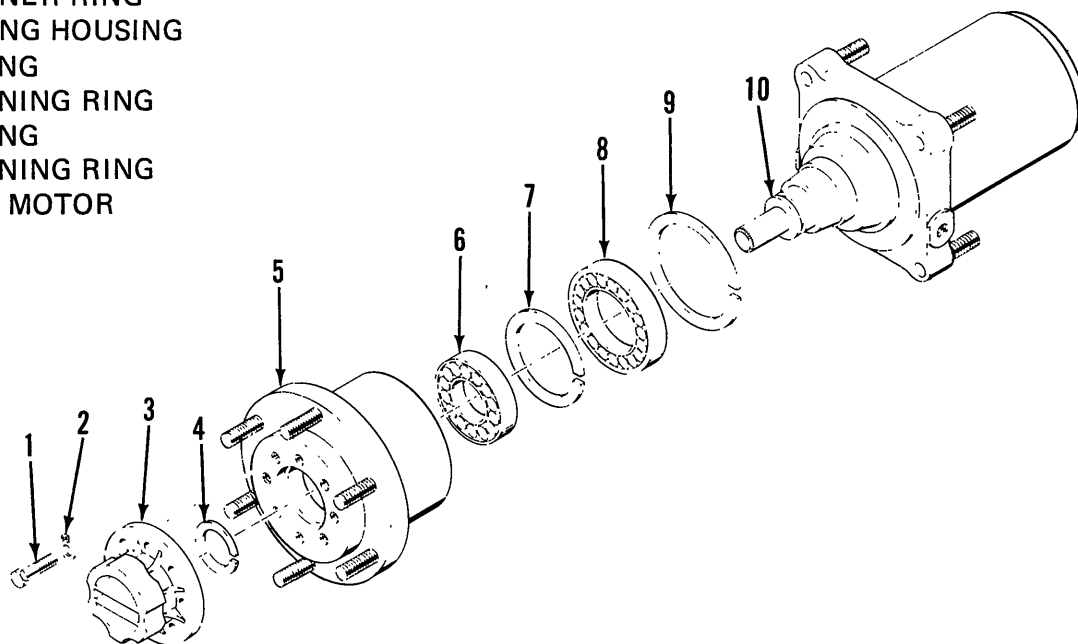

Figure 5-11. Free Wheeling Hub
(1) Refer to Figure 5-11 and bend down lock tabs of the lockwashers (2) to allow removal of the capscrews (1) and the de-clutch assembly (3).
(6) Wrap the splines of the coupling shaft (16) to prevent damage to the seals (22 and 24) then install the coupling shaft.
(7) Install the drive link (15) aligning the hole in the drive link with the one in the coupling shaft.
(8) Install the wear plate (14).
(9) Install the rotor set (11, 12 and 13) with the counter bore of the rotor (12) facing down.
(10) Install the manifold plate (10), manifold (9) and the commutator ring (6).
(11) Install the commutator (8) and seal ring (7).
(12) Install replacement seal rings (17 and 4) on the housing assembly (25) and end cover (2).
(13) Apply a generous amount of petroleum jelly to both ends of the sleeve (5) and assemble onto housing (25). Be certain it is on straight.
(14) Assemble the end cover (2) onto the sleeve (5) making certain it is straight.
(15) Install the seven special capscrews (1) and tighten finger tight. Tighten the capscrews alternately to pull the end cover (2) and sleeve (5) into place. Torque the capscrews to between 45 and 55 lbs./ft.
(16) Refer to Figure 5-11 and install the bearing (6) in the housing (5) and secure with retaining ring (7).
(17) Install the bearing (8) in the housing (5) and secure with retaining ring (9).
(18) Install the housing assembly on the drive motor (10) and secure with retaining ring (4).
(19) Apply a bead of locktite around the circumference of the de-clutch mating flange. Align the splines of the de-clutch assembly with the drive motor then slide the assembly onto the drive motor shaft.
(20) Secure the de-clutch assembly (3) to the bearing housing (5) with capscrews (1) and lock-washers (2). Torque the capscrews to 35 to 45 lb./ft. then bend the lock tabs to secure the capscrew heads.